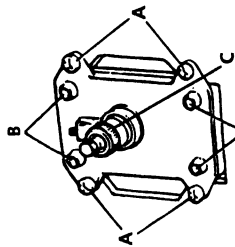

Fig. 15
- Fit the cover. Make sure the tabs snap properly into the lugs (B fig. 15).
- Grease the shaft splines (C fig. 15) springly and install the lever.